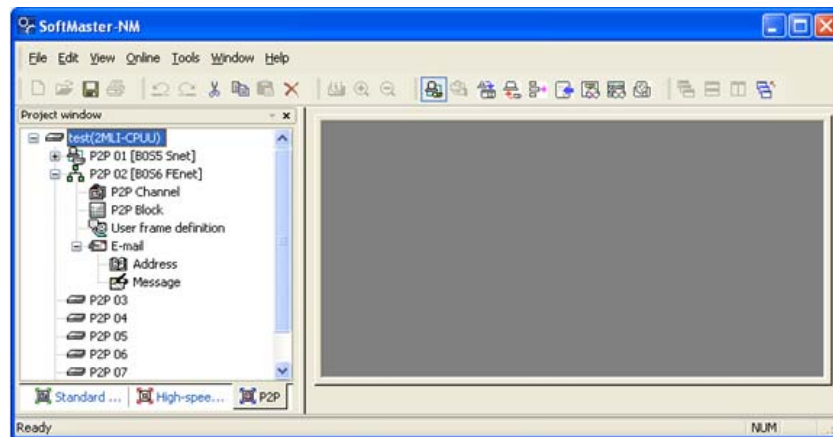

Figure 21 – P2P setting details
- 5 After communication module setting is completed, click **OK** and P2P setting details window displays as shown in Figure 21.